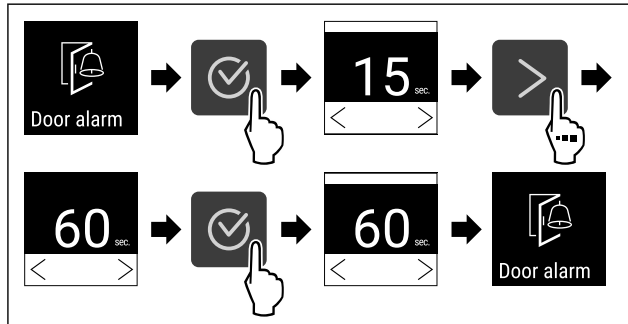

Fig. 104
- Complete steps (see Fig. 104) .